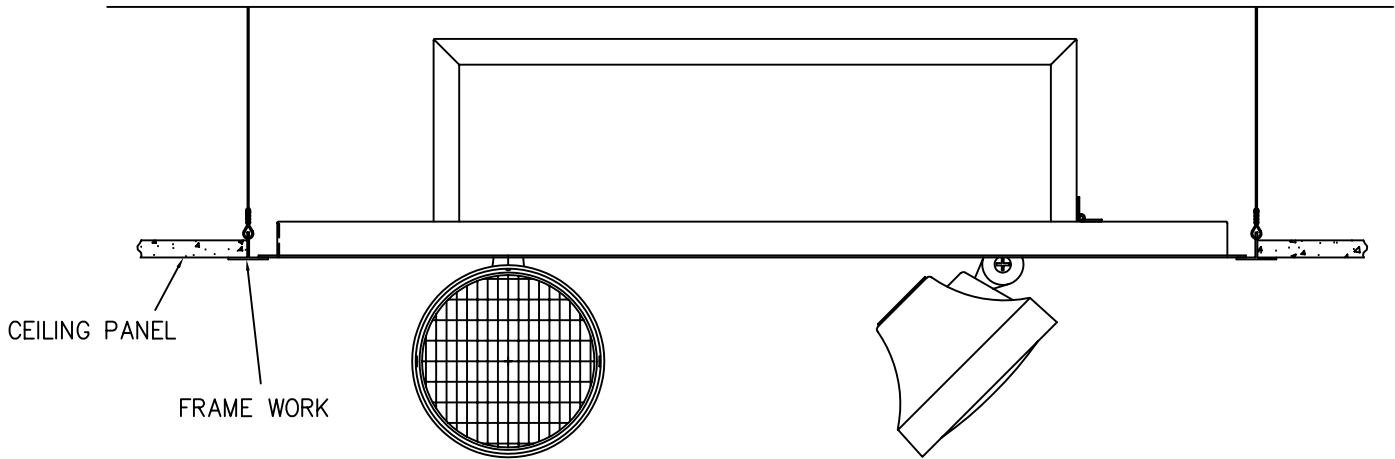

FIGURE 2
1. This unit is intended for installation in grid type suspended ceilings only. (See figure 2)